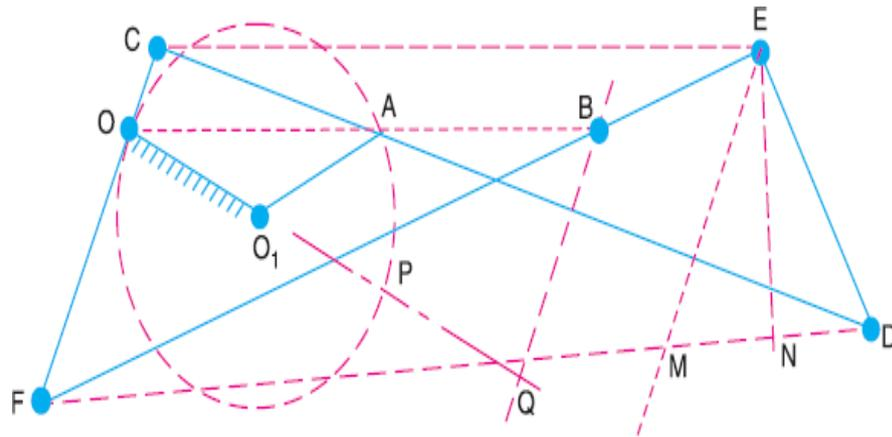

Fig. 2.3 Hart's Mechanism
- It consists of a fixed link  $OO_1$  and other straight links  $O_1A$ ,  $FC$ ,  $CD$ ,  $DE$  and  $EF$  are connected by turning pairs at their points of intersection, as shown in Fig. 2.3.